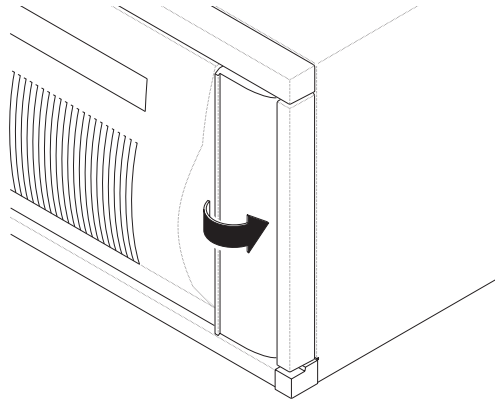

Figure 4-4 Opening the entry/exit port door
5. Rotate the entry/exit port door, from left to right, as shown in Figure 4-4.